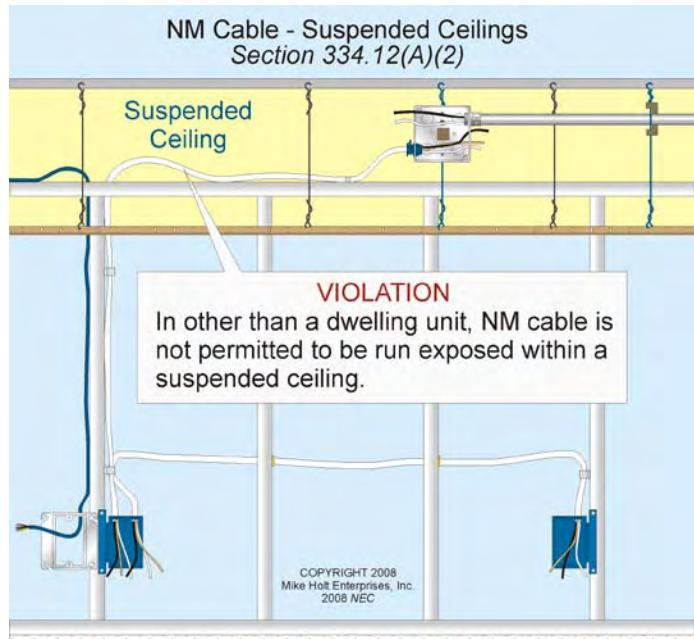

Figure 334-4
- (2) Exposed in dropped or suspended ceilings in other than one- and two-family and multifamily dwellings. **Figure 334-4**
- (3) As service-entrance cable.
- (4) In commercial garages having hazardous (classified) locations, as defined in 511.3.
- (5) In theaters and similar locations, except where permitted in 518.4(B).
- (6) In motion picture studios.
- (7) In storage battery rooms.
- (8) In hoistways, or on elevators or escalators.
- (9) Embedded in poured cement, concrete, or aggregate.